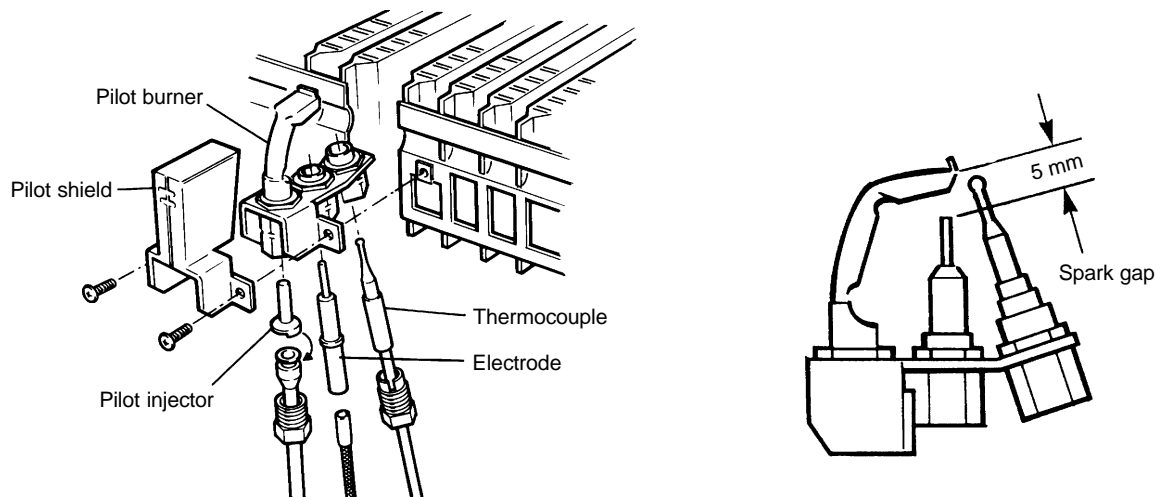

Fig. 19
9. Check the spark gap, positioning and height of the electrodes (see Figs. 19 and 20).
8.3 PILOT COMPONENTS (Alpha 240XP only) - Fig. 19
Disconnect the lead from the electrode, unscrew the nut and withdraw the electrode. It will be necessary to remove the thermocouple first. Fit the new electrode and check the spark gap (see Fig. 19).
Disconnect the pilot supply and remove the injector. Fit the new injector over the pilot supply as shown in Fig. 19, and reconnect it to the pilot burner.